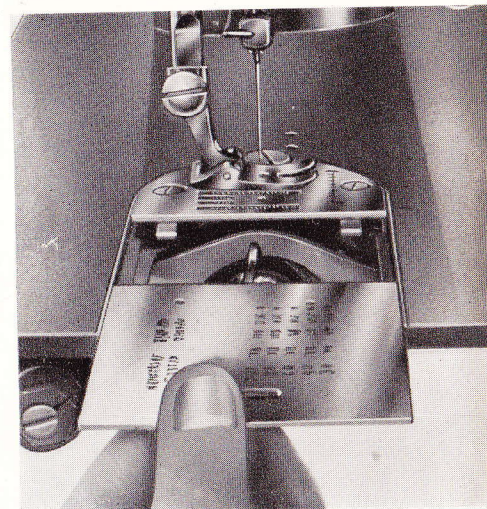

Fig. 7
3. Pull out slide plate (Fig. 7).